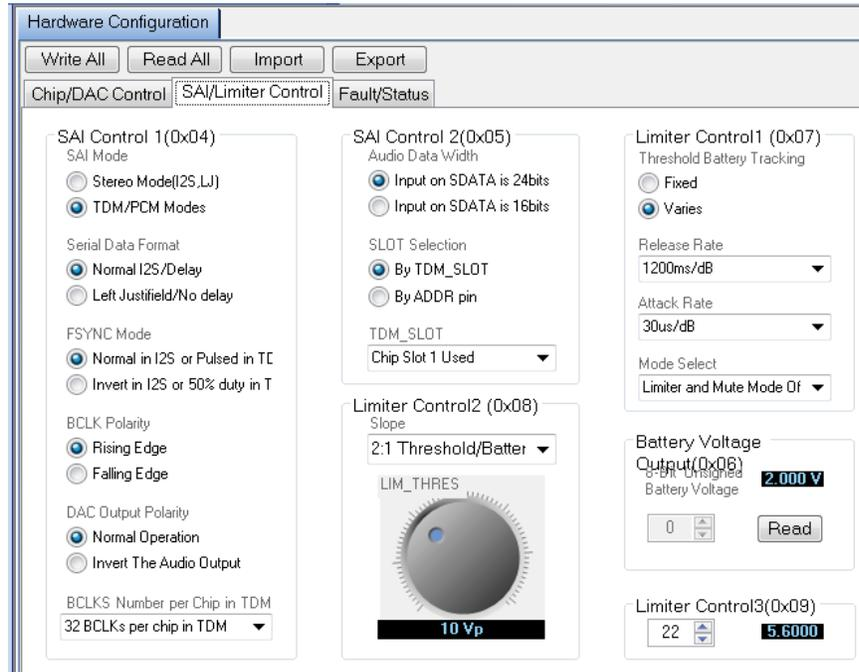

Figure 7. Serial Audio Interface and Limiter Control Tab
20. In the **SAI/Limiter Control** tab, under **SAI Control 1**, select **Stereo Mode** (see Figure 7). If clock and data signals are present, the **SSM3515** switching outputs are available at Connector J8 and audio can be heard from the connected speaker.